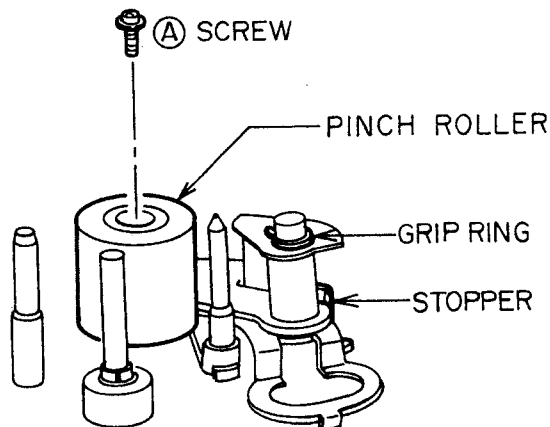

Fig. 3-17
- 1) Remove the (A) screw, then remove the PINCH ROLLER part, as shown in fig. 3-17
- 2) Set the pinch roller so that white plastic spacer side faces chassis when replacing. Then tighten the (A) screw.